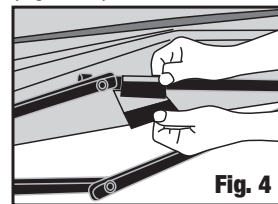

Fig. 4
- Secure shelter top to frame with hook & loop fasteners provided. (Fig. 4 & 5)